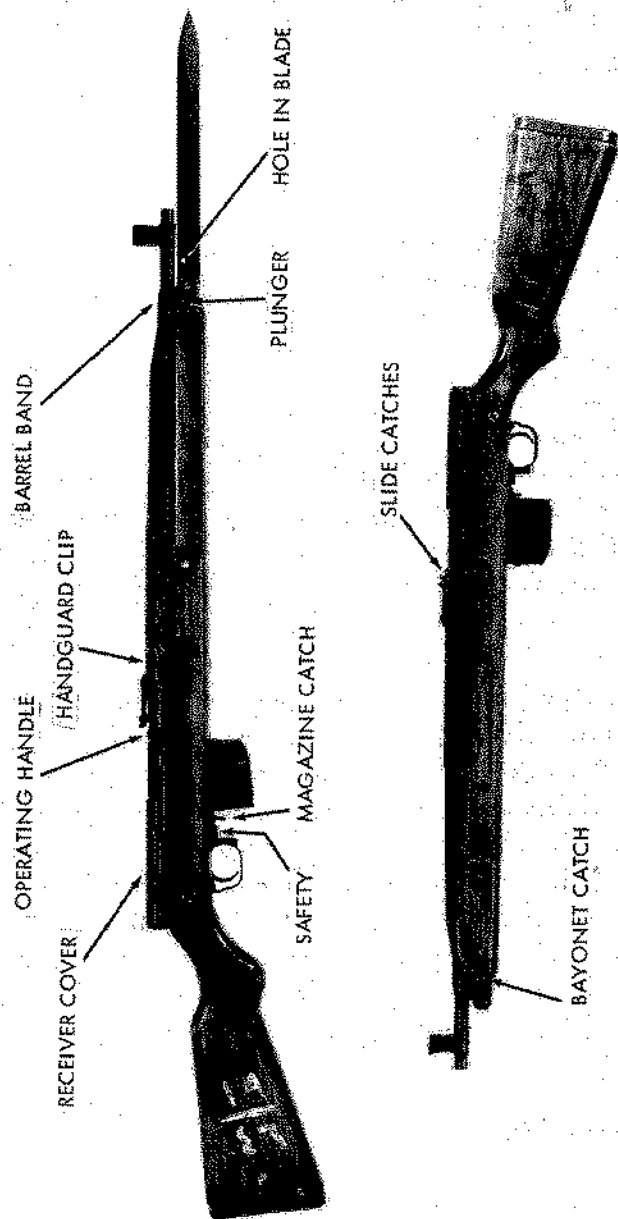

Figure 106. Czechoslovak M52 or M52/57 rifle.
a. The Czechoslovak-designed and produced Vzor 52 and Vzor 52/57 semiautomatic rifles (fig 106) are gas-operated, box magazine-fed shoulder weapons, equipped with permanently attached folding bayonets. The Vz52 and Vz52/57 rifles are obsolete in the Czechoslovak Army; however, large quantities of both weapons have been supplied to Communist-aligned nations.
a. The Vz52 and Vz52/57 are identical in operation. These rifles can be loaded by any one of three different methods. In any case, the bolt must be drawn fully rearward by the operating handle (fig 106) until the bolt is caught to the rear by the bolt catch; an empty magazine must be in place in the rifle to actuate the bolt catch. The three methods of loading are listed below:
(1) Insert a five-round stripper clip into the clip guides machined into the front of the bolt carrier; then using thumb pressure, press the cartridges from the clip into the magazine.
(2) If clipped ammunition is not available, place individual cartridges in the magazine opening and press them into the magazine.
(3) If spare loaded magazines are available, press the magazine catch (fig 106) toward the magazine, and with a forward rotary motion, swing the empty magazine out of the rifle. Hold the loaded magazine slightly canted forward and mate the groove across its top front edge with the lip in the magazine well. Swing the magazine rearward until the magazine catch snaps into place.
c. If the Vz52 is not to be fired immediately, apply the safety (fig 106) by moving it rearward.
d. Set the rear sight for the desired range by pressing the slide catches (fig 106) and moving the sight bar along the leaf until
h. The Vz52 bayonet is affixed by pressing on the bayonet catch (fig 106) (located at the left front end of the stock) and swinging the bayonet forward until it locks into place. The bayonet is folded back by again pressing on the bayonet catch and swinging the bayonet rearward until it locks into place.
(3) Use the operating handle to pull the bolt carrier to the rear; at the same time firmly press the bolt carrier to the right. This will cause the bolt carrier to slip into the disassembly notch as it moves rearward; when this happens, press down on the operating handle, and the bolt carrier will disengage from the receiver. Lift the bolt carrier away from the receiver.
(4) Push the bolt rearward in the carrier; pull down on the front end of the bolt and, when the bolt has disengaged, pull it forward out of the carrier.
(5) Press in on the handguard clips (fig 106) in front of the rear sight and lift the handguard off the rifle.
(6) Pull the rear end of the trigger guard to the rear to unlock it, then swing it forward. Slide the trigger group forward into the magazine opening and remove it.
(7) Use a punch or the point of a bullet to press in on the plunger underneath the hole in the bayonet; then slide the barrel band (fig 106) forward. Lift the muzzle end of the barrel away from the stock and separate the stock from the rifle.